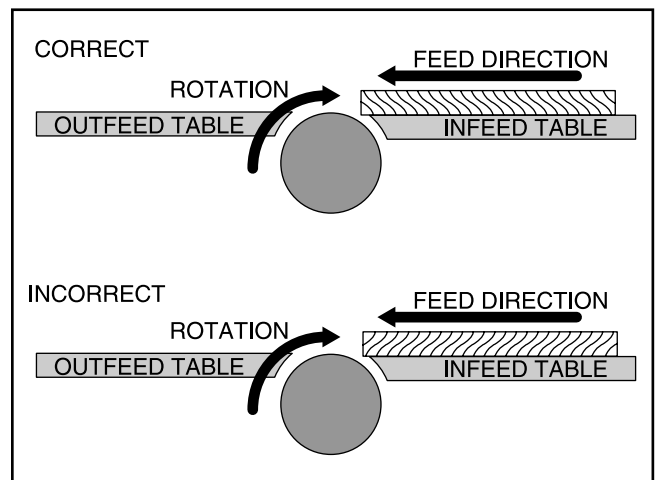

Figure 21. Correct and incorrect grain alignment to cutterhead.
- **Jointing and surface planing “with” the grain produces a better finish and is safer for the operator.** Cutting “with” the grain is described as feeding the stock on the jointer so the grain points down and toward you as viewed on the edge of the stock (**Figure 21**). Note—If the grain changes direction along the edge of the board, your best bet for improving cut quality is to decrease the cutting depth and make additional passes.